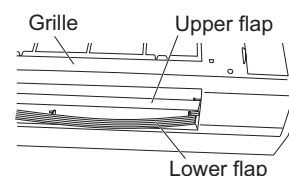

Fig. 2-243
- (5) Remove the lower flap by disengaging 4 pins of the lower flap in order. (Figs. 2-243 and 2-244)